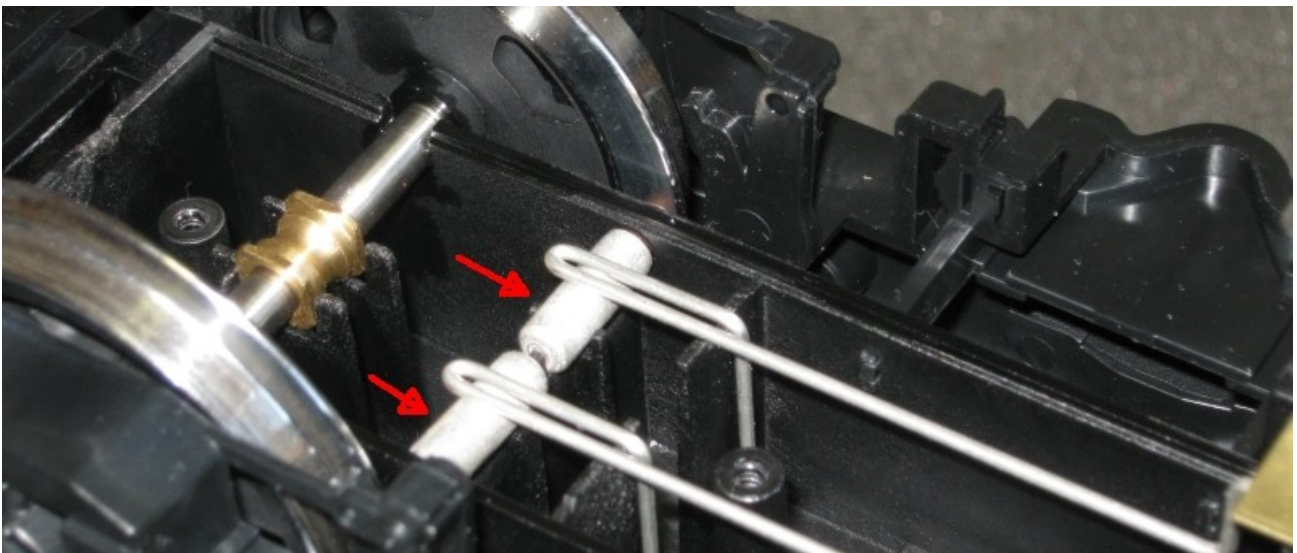

Fig. 3: Insertion of the brushes
- Place the brushes in the prepared sockets, paying attention to the position of the current conductors (Fig. 3).